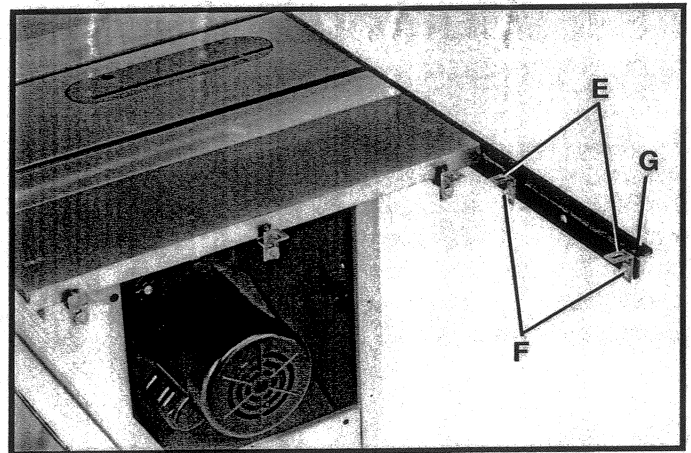

Fig. 20
4. Assemble two additional angle brackets (E) Fig. 20, to the rear guide rail (G) as shown with two 1/4-20 x 3/4" carriage bolts, flat washers, and hex nuts (F). **IMPORTANT:** The shorter legs of these two angle brackets will be attached to the rear guide rail, with the longer legs facing up and inward. These two angle brackets (E) do not require the use of Z-brackets. Do not tighten hardware at this time.